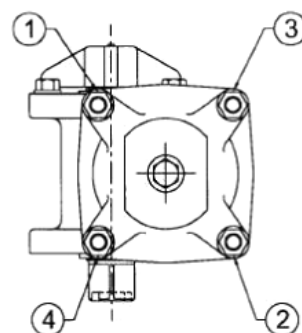

Figure 8: Tie rod tightening sequence
- B. Remove tie rod bolts (41). Back off piston bolt (33) until spring is fully relaxed and piston (25) is free.
- D. Re-assemble piston, cylinder, endcap and tie rods, being sure to follow the tie rod tightening sequence (figure 8). Do not over tighten bolts. Refer to Assembly Torque Requirements Chart (Table 1).
- B. Alternately and uniformly remove bolts (51) from hollow tie rods. Back off each bolt approximately 1/4”, following the tie rod sequence (figure 8). Repeat the sequence until spring(s) is/are totally relaxed and endcap is free.
- D. Re-assembly endcap with bolts (51). Use reverse procedure as shown in Step B, being sure to follow the tie rod tightening sequence (figure 8). Be sure each hollow tie rod slides into the counterbore in endcap. Do not over tighten bolts. Refer to Assembly Torque Requirement Chart (Table 1).
- U. On spring return models; hollow tie rods (50) must be screwed onto long bolts (51) protruding from adaptor (26).
- V. Place cylinder gasket / o-ring (46) in endcap (54). Insert long bolts (51) with flat washer (53) in endcap.
- W. Place spring(s) in cylinder, being sure to nest in piston contours. Mount endcap over extended spring(s) and fasten to hollow tie rods (50) with bolts (51). To prevent galling, lubricate bolts (51) with "Whitmore's Omnitemp II" grease or equal. Alternately and uniformly tighten bolts (51) in hollow tie rods. Tighten each bolt approximately 1/4" - 1/2" following the sequence shown in Tie Rod Tightening Sequence (figure 8) until spring is completely compressed. Be sure that each hollow tie rod slides into the counterbore in the endcap. Do not over tighten bolts. Refer to Assembly Torque Requirements (Table 1).
- X. Install position indicator (13) and pointer (16), where applicable. Assemble adjusting screws (37), thread seals (36) and jam nuts (38).